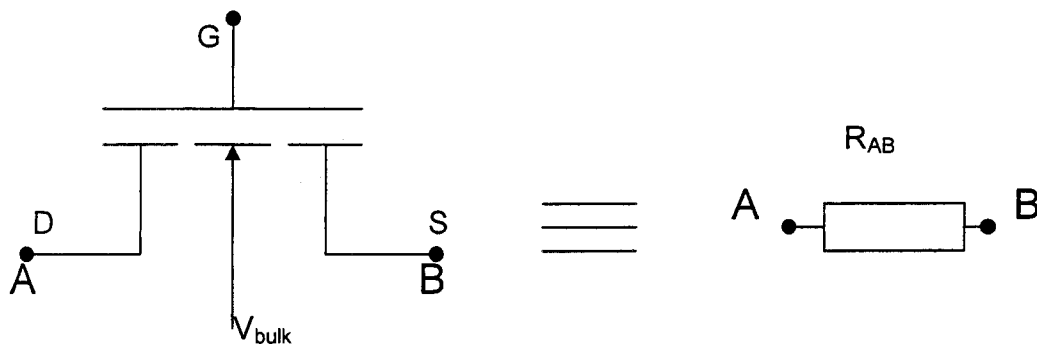

Figure 4.1
4. (a) Under what operating conditions does the MOSFET of Figure 4.1 realise a linear floating resistor between terminals A and B? Show that under these conditions the equivalent resistance R_{AB} can be approximated by
- (b) Discuss three sources of non-linearity in the single MOSFET resistor realisation of Figure 4.1 and suggest one suitable circuit design to help eliminate one or more of these non-linear terms. Show all necessary circuit analysis to confirm your design.